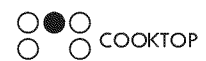

Figure 5
2. Touch the ON/OFF pad (Figure 5) at the Warm & Ready zone control position. The ON/OFF indicator light will flash. **Note:** If no Hi/Lo pad is not touched within 5 seconds, the request to power the Warm & Ready zone ON will clear.